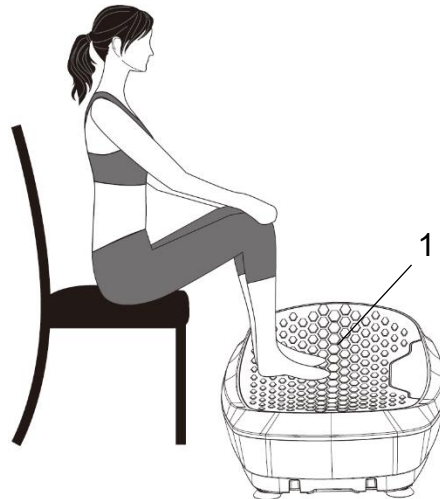

Fig. 5
4. Sit on a chair in front of the machine and place your feet on the **Stepping Rubber (No. 1)** for a relaxing vibration massage. This exercise is good for the lower and upper thighs. (Fig. 5)